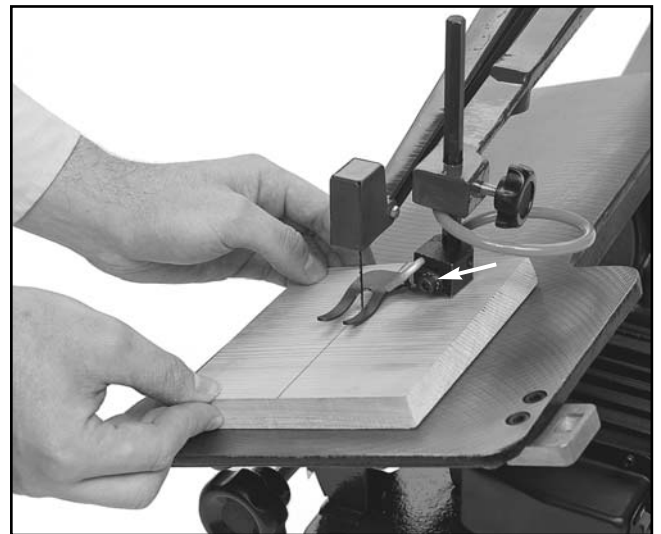

Figure 11.
3. Adjust the Hold-down Foot to the same angle as the table. Its adjustment bolt is shown in **Figure 11.** As with the other cuts, make it touch, not clamp your workpiece.